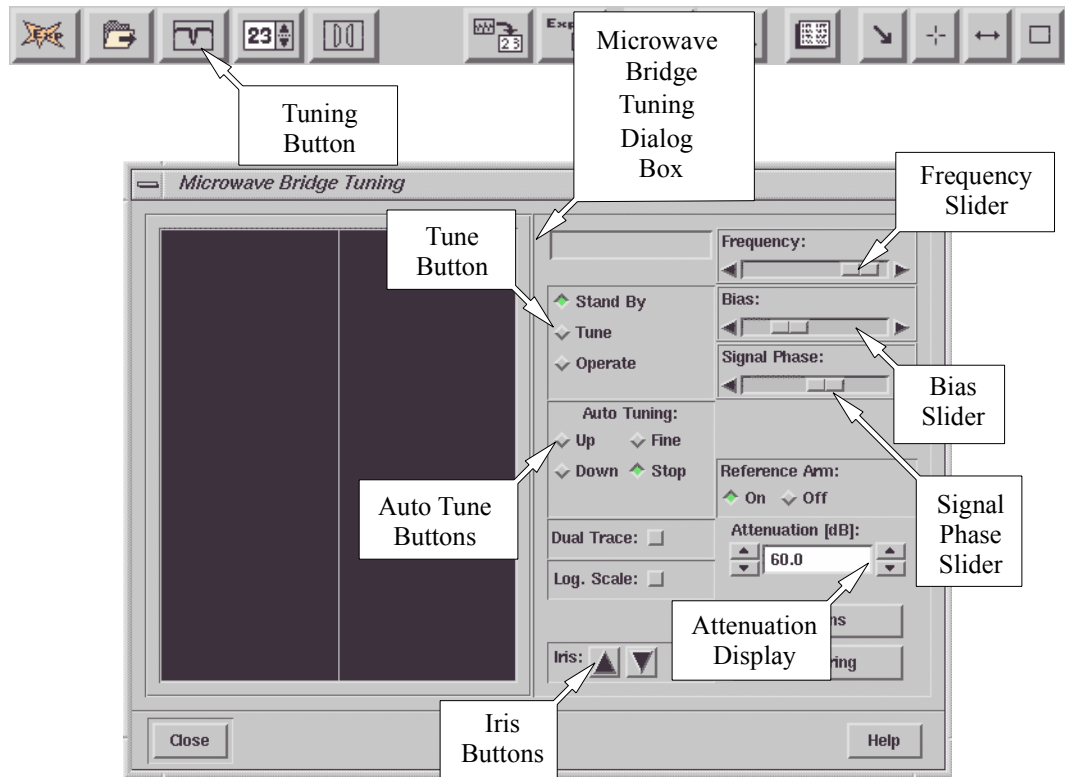
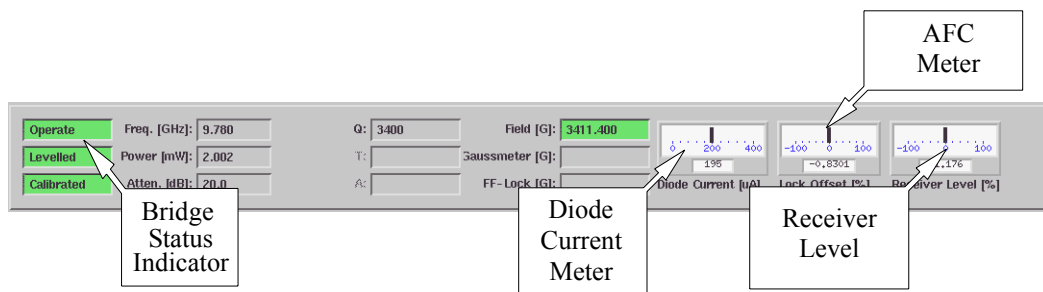

Figure 7-2 The Microwave Bridge Tuning dialog box.
Figure 7-3 The indicators for the microwave bridge.
1. **Open the Microwave Bridge Tuning dialog box.** If this window is not already open, click its button in the monitoring panel. The microwave bridge tuning dialog box will then appear. (See Figure 7-2.)
2. **Switch the microwave bridge to Tune mode.** The bridge status indicator shows the three states or modes for the microwave bridge, **Stand By**, **Tune**, and **Operate** (See Figure 7-3.). In **Stand By** the power to the microwave source is shut off. When you switch to **Tune**, the source turns on and you produce a frequency sweep that allows you to see the tuning dip for your cavity. Switching to **Operate** causes power only at the resonant frequency to be transmitted to the cavity. When you turn on your spectrometer and connect to the spectrometer, it should be in **Stand By** mode, which is indicated by **Stand By** appearing in the Bridge Status Indicator and the Microwave Bridge Tuning dialog box. (See Figure 7-2 and Figure 7-3.) If you have been acquiring spectra already, your bridge will probably be in **Operate** mode. Click the **Tune** button in the dialog box to change to the **Tune** mode.
3. **Set the microwave attenuator to 30 dB.** The microwave attenuation is set by clicking the arrows on either side of the attenuation display. (See Figure 7-2.)
11. **Turn the Reference Arm on.** Click the Reference Arm On button. The Bias slider should be about in the center to ensure that you have some microwave power in the reference arm. (See Figure 7-2.)
12. **Tune the signal (reference) phase. (Solid-state Microwave Sources)** While the “dip” is in the center of the display, adjust the Signal Phase slider (See Figure 7-2.), until the depth of the dip is maximized and the “dip” looks somewhat symmetric. (See Figure 7-4.) We shall fine-tune this phase later, but this procedure gets us close to the correct phase. Proceed to Step 14.
13. **Tune the signal (reference) phase. (Klystron Microwave Sources)** While the “dip” is in the center of the display, adjust the Signal Phase slider (See Figure 7-2.), until the shoulders on each side of the “dip” appear to be approximately the same height and the “dip” looks somewhat symmetric. (See Figure 7-5.) We shall fine-tune this phase later, but this procedure gets us close to the correct phase.
14. **Fine-tune the microwave source frequency.** Click the **Operate** button in the dialog box to change to the **Operate** mode. Adjust the **Frequency** slider until the needle of the **AFC** meter is centered. You can locate the **AFC** meter by referring to Figure 7-3. Sometimes the needle may rush off to the right or left edges of the meter. This happens when the **AFC** (Automatic Frequency Control) is no longer locked. If this happens, click the **Tune** button to return to the **Tune** mode. Repeat Step 10. and then try again.
15. **Adjust the bias level.** Change the microwave attenuation to 50 dB. Adjust the **Bias** slider (See Figure 7-2.), until the **Diode Current** meter needle is centered. You can locate the **Diode Current** meter by referring to Figure 7-3. The center corresponds to 200 microamperes of diode current.